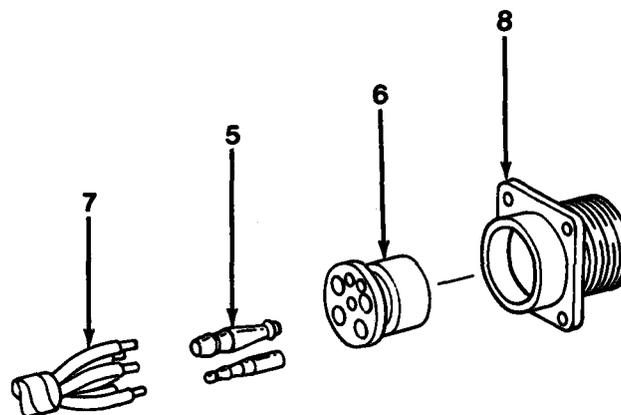

Figure 10-3
2. Push socket contacts (5) out through rear of insert (6, Figure 10-3) with pin extractor.
3. Unsolder cable leads (7) from solder wells on socket contacts (5).
4. Slide insert (6) out through rear of shell (8).